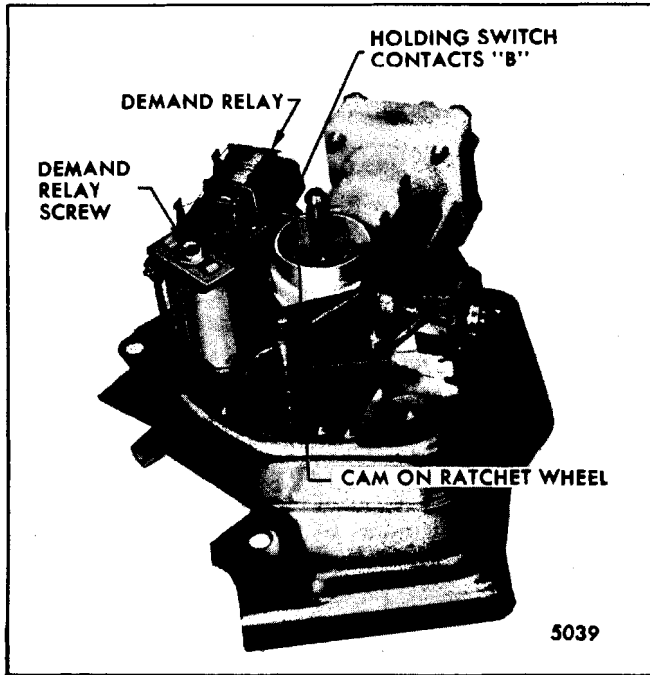

Fig. 2-75-Ratchet Wheel Cam
- The cam on the edge of the ratchet wheel opens holding contacts "B" (Fig. 2-75). However, contacts "A" are still closed at this stage of operation. With contacts "A" still closed, the gear box relay coil is still energized completing the feed circuit to the motor windings, and the motor continues to run.
2. Remove holding switch retaining screw and lift the holding switch assembly and relay assembly off the pump mounting surface (Fig. 2-75). Separate relay assembly from holding switch.